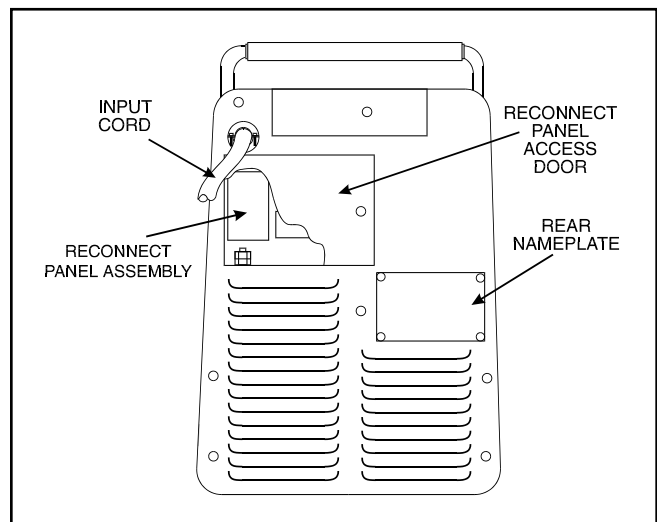

FIGURE A.1 - Case Back Assembly: Input Power Cable Entry Connections.
3. Be sure the voltage, phase, and frequency of the input power is as specified on the machine rating plate. See Figure A.1 for the location of the machine's input cord entry, Reconnect Access Door, and Reconnect Panel, and Rear Nameplate.